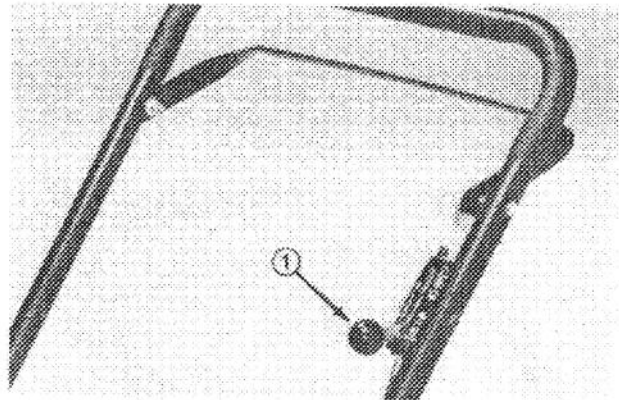

Figure 9
2. Move ground speed control to desired speed selection (SP model). Move throttle control to CHOKE position (Fig. 9).